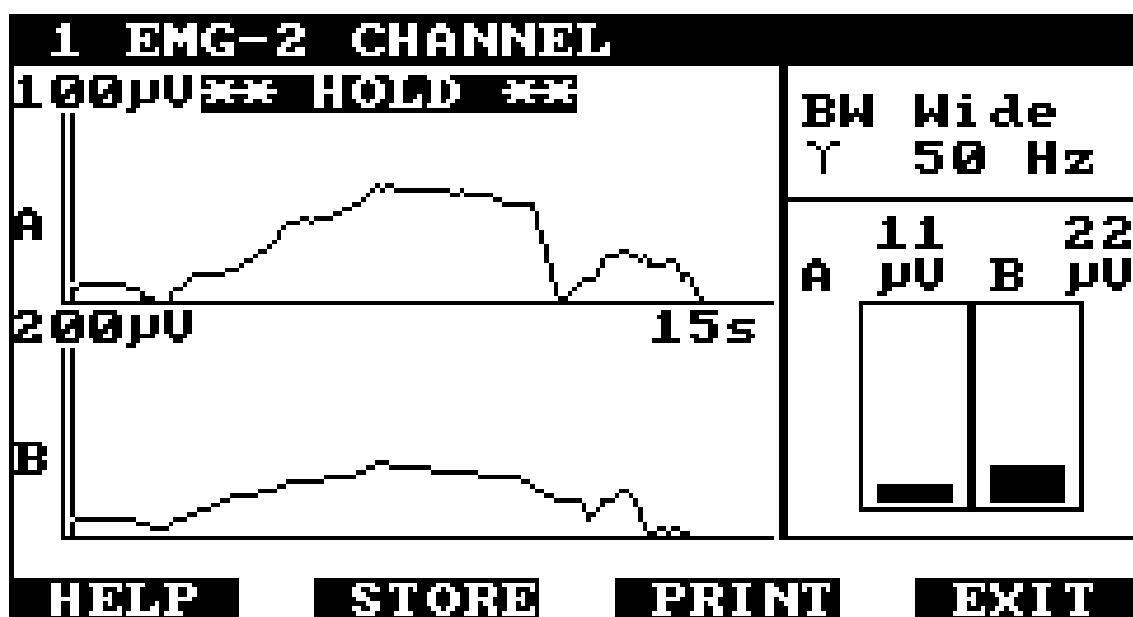

Figure 17 - Hold mode
13. F2 - HOLD: Pressing F2 will suspend the acquisition of further EMG data and repaint the screen with the most recent data at the right of the line graphs (figure 17). A cursor line is shown at the left of the graph and the bar graphs and numeric displays show the values at the cursor position.